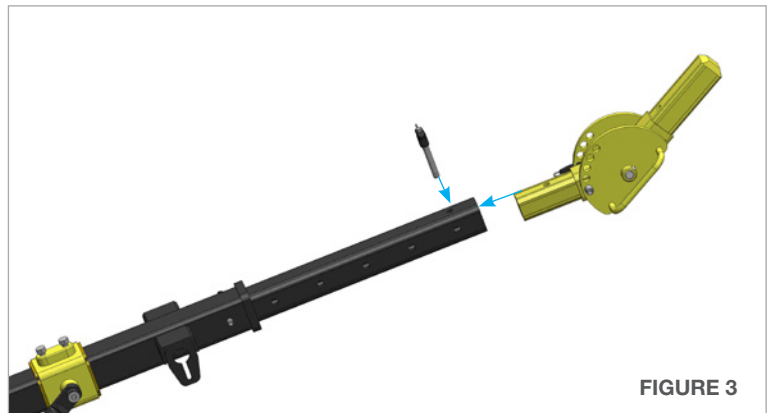

FIGURE 3
3. Install the Pivot Lock Assembly into the Inner Boom. Secure the Pivot Lock Assembly with the Quick Release Pin. **(Figure 3)**